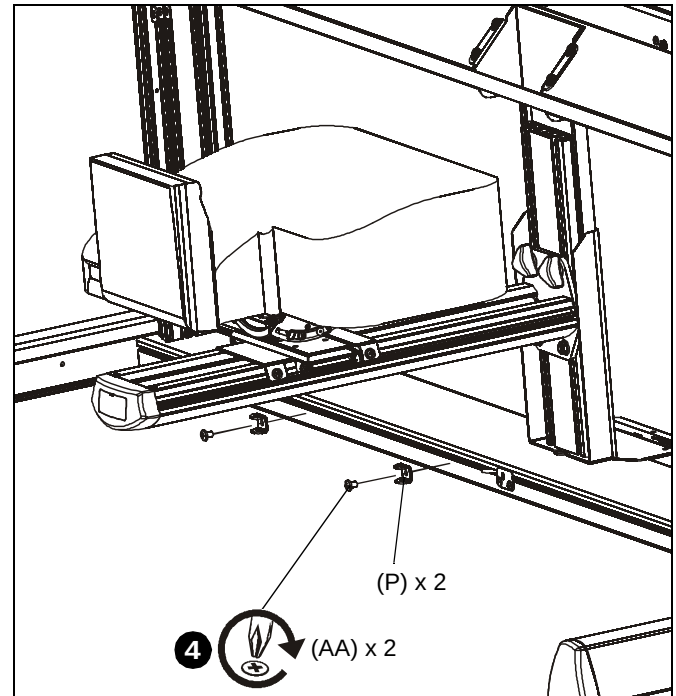

Figure 13
4. Use two 1/4-20 x 3/8" Phillips pan machine screws (AA) to secure two cable clips (P) along base of cross bar assembly. (See Figure 13)